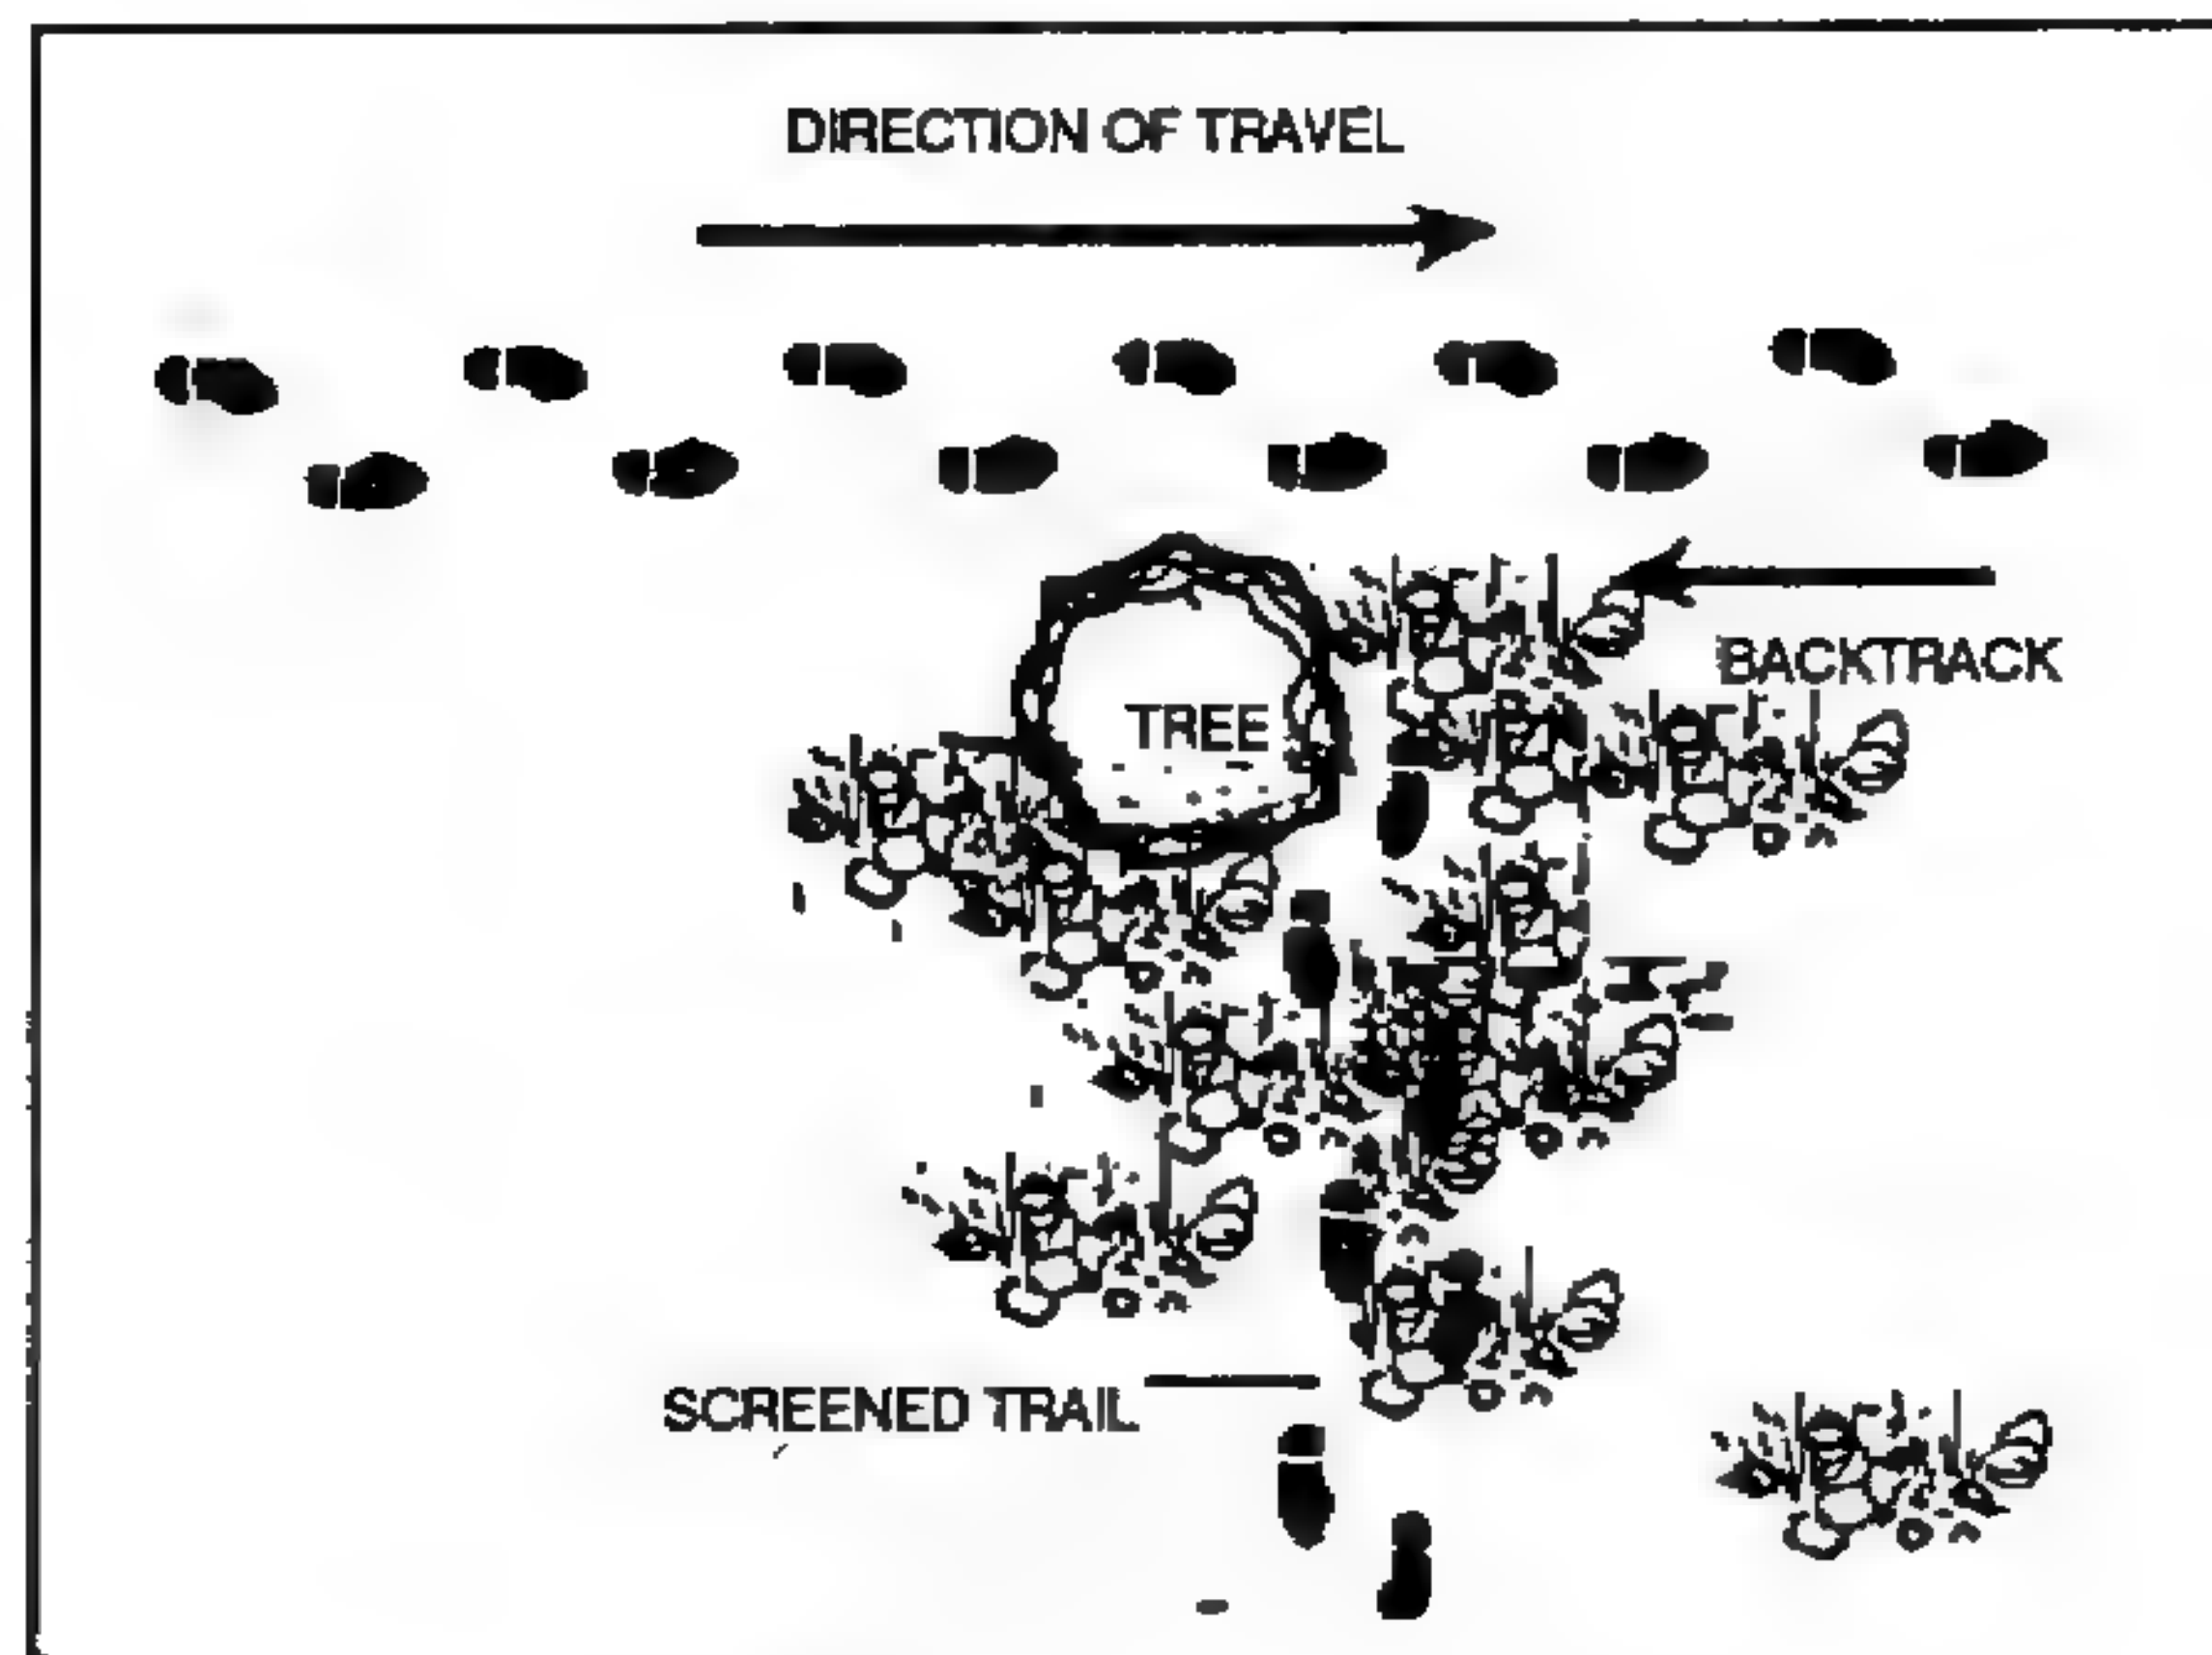

Figure 8-7. Large tree.
b. **Large Tree.** A good deception tactic is to change directions at large trees (Figure 8-7). To do this, the sniper moves in any given direction and walks past a large tree (12 inches wide or larger) from 5 to 10 paces. He carefully walks backward to the forward side of the tree and makes a 90-degree change in the direction of travel, passing the tree on its forward side. This technique uses the tree as a screen to hide the new trail from the pursuing tracker.